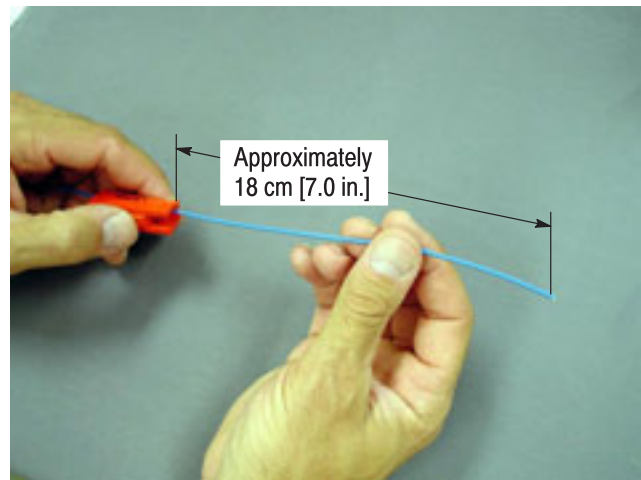

Figure 60
5. Apply a cable clamp on the cable approximately 18 cm [7.0 in.] from the end of the cable as shown in Figure 60. Repeat for second end.